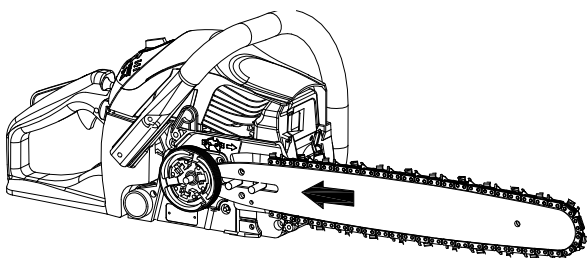

Fig. 30
5. Slide bar toward engine to loosen chain (Fig. 30).